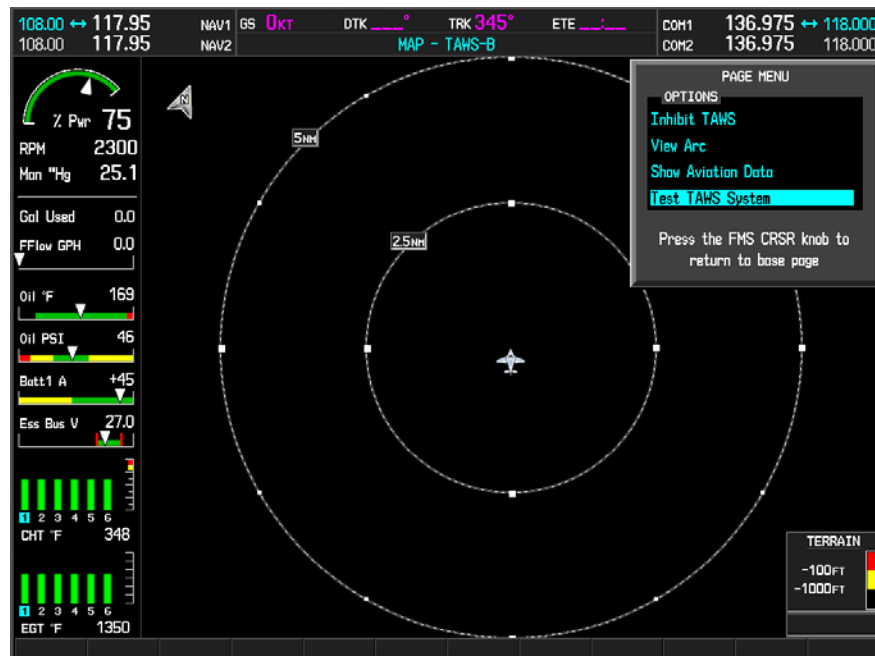

Figure 7-5. TAWS Display
3. Press the MENU button and select “Test TAWS” from the pop-up menu (Figure 7-5).